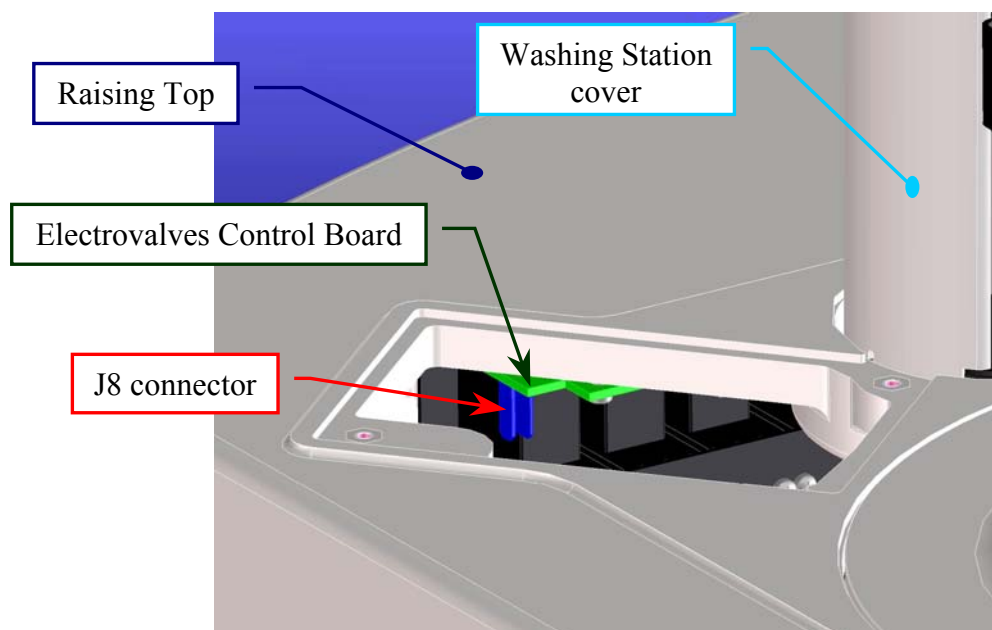

Fig. 132 – Rectangular opening of the Raising Top
2. Take the Service Probe of the Kit having P/N: 55-01204-00 and push it through the rectangular opening of the Raising Top (**Fig. 132**).
3. Plug the connector of the Service Probe in the J8 connector of the Electrovalves Control Board (compare the **Fig. 132** and the scheme SC-30-02194-00).
- c. plug the 10 K Ω resistor [Kit having P/N: 55-01204-00] in the J8 connector of the Electrovalves Control Board (**Fig. 132**);
- f. plug the 5.76K Ω resistor [Kit having P/N: 55-01204-00] in the J8 connector of the Electrovalves Control Board (**Fig. 132**);
- k. plug the connector of the Service Probe in the J8 connector of the Electrovalves Control Board (**Fig. 132**).